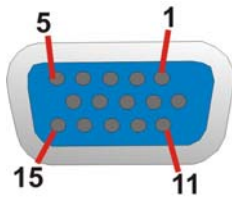

Figure 3-26: VGA Connector
- CN Pinouts:** See **Figure 3-26** and **Table 3-9**